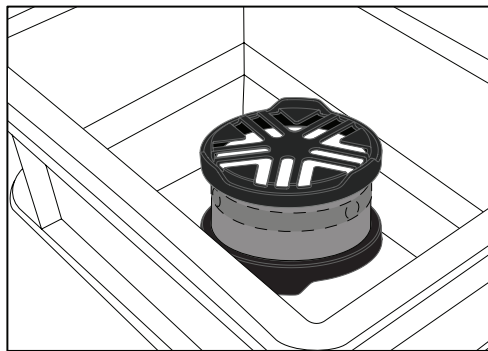

Figure 6 Soil sample in water trough
16. It is important to let the sample saturate through capillary action. Do not pour water on the top of the sample because air enclosures and the pores will not completely fill with water (Figure 6).